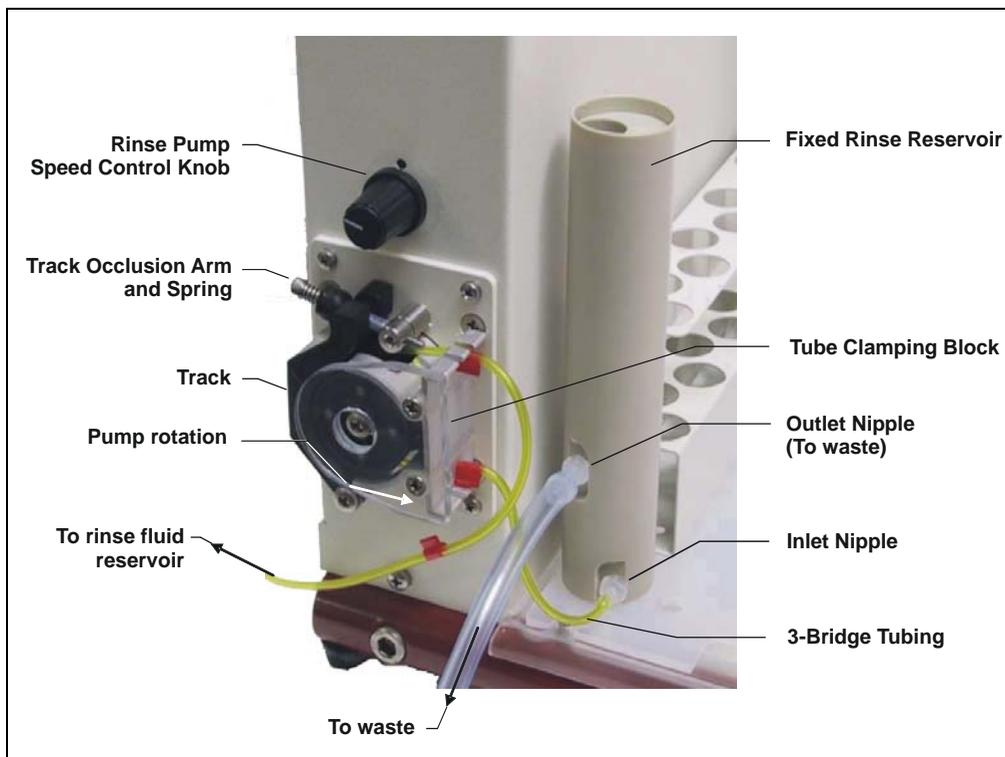

*Figure B-3. Fixed Rinse Reservoir*
3. Rotate the rinse reservoir clockwise 90 degrees until it locks into position. The inlet and outlet nipples on the reservoir should be facing the left-hand side of the AS-HV (see Figure B-3).
5. Connect the delivery line to the inlet nipple of the fixed rinse reservoir (see Figure B-3). Keep the delivery line as short as possible.